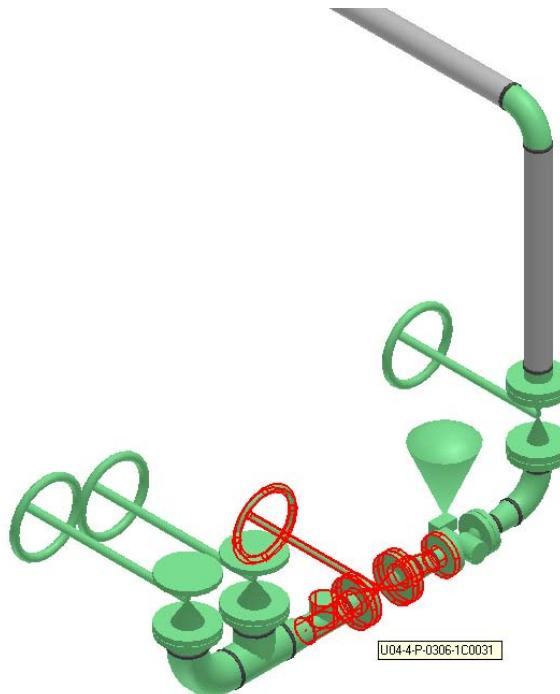

Figure 89: Selected Pipe Run Along With the Tee
51. Select the pipe run to which the tee belongs, as shown in Figure 89.